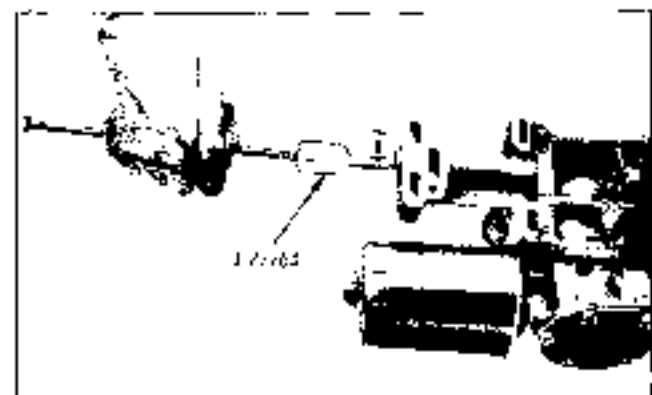

Fig. 6-41 Removing Bearing and Seal
6. If necessary to replace bearing or seal, use J 22264 and slide hammer to remove seal or bearing and seal together (Fig. 6-41).